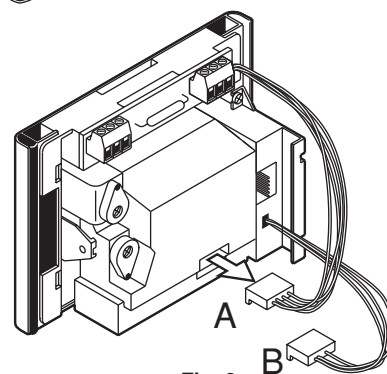

Fig. 2
2. Remove connector A from the TV camera module (fig. 2)